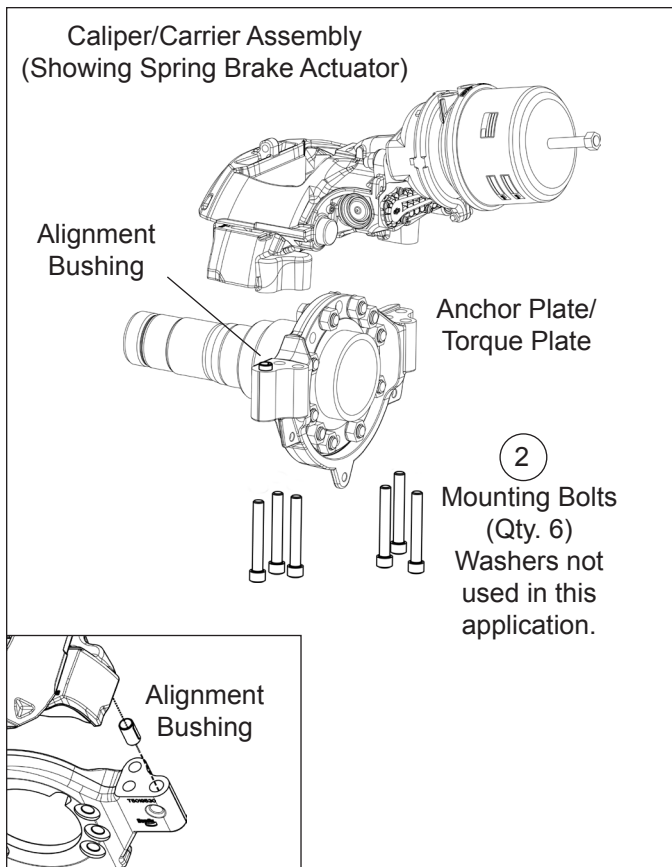

Figure 9 – Vertical Mount Caliper/Carrier
1. (See Figure 9). Supporting the air disc brake by necessary means, remove and discard the six mounting bolts (Item 2). Lift the caliper up off the anchor plate. (See Figure 9).